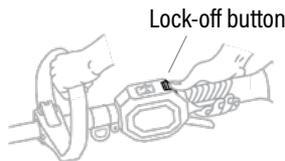

Fig. 7B
2. Press the lock-off button and hold it in that position, depress the trigger to turn on the tool. Release the lock-off button and continue to squeeze the trigger for continued operation. (Fig.7B/7C)